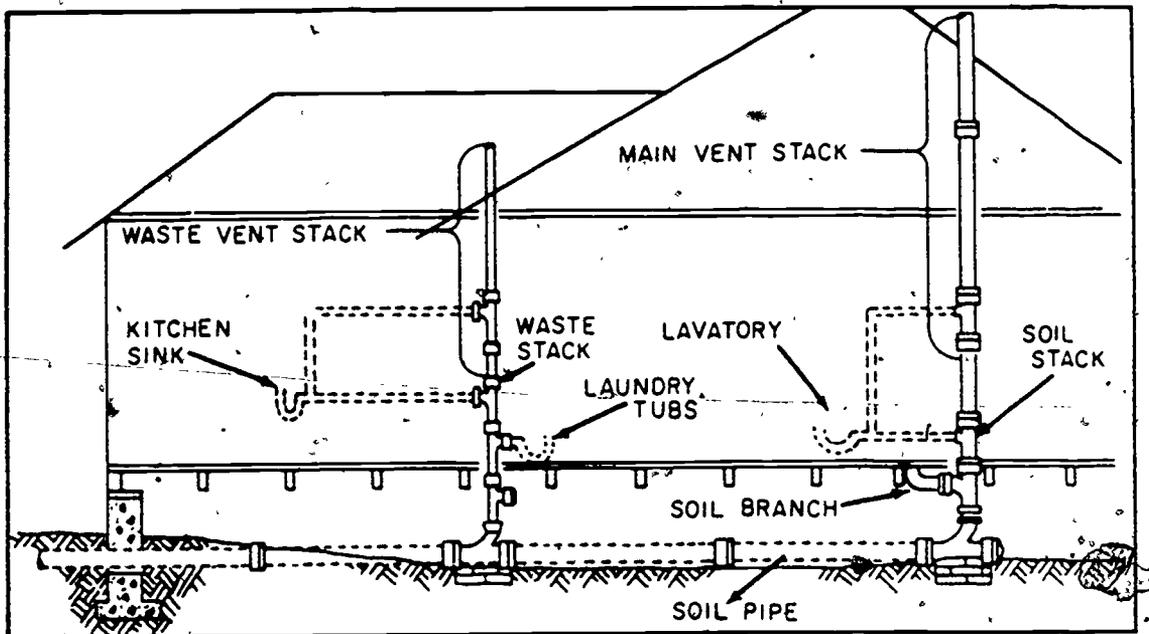
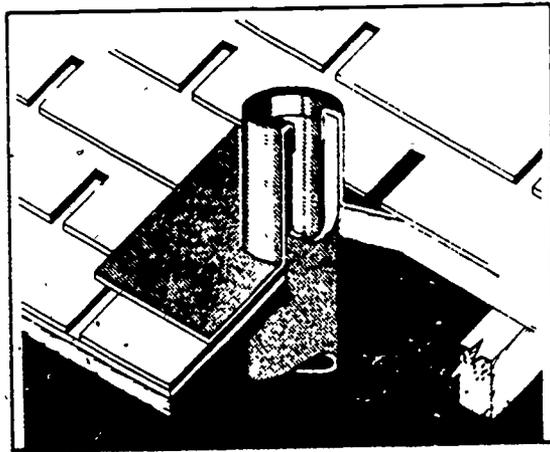

Figure 2-13 Identification of stacks
Figure 2-17 Installation of roof vent flashing
**Main stack.** Every building in which plumbing is installed should have at least one main stack, which should run undiminished in size and as directly as possible from the building drain to fresh air above the roof. (See fig. 2-13.)
**Waste stack.** A waste stack is the vertical pipe that carries waste from any fixture, except water closets, to a junction with the soil pipe or to the building drain, as shown in figure 2-13. Waste stacks may be as small as 2 inches in diameter; the size of the pipe is determined
**Soil stack.** A soil stack is the vertical main pipe that carries human waste to a junction with a soil pipe or to the building drain, as shown in figure 2-13. The plumbing codes specify that a soil stack must be constructed of pipe with a minimum diameter of 3 inches.
**Vent stack.** A vent stack is a vertical pipe which provides circulation of air through the drainage system. The vent stack may be constructed on top of a soil stack, but only the portion of the pipe which is above the highest fixture rim or waste branch inlet is considered to be the vent stack, as you can see in figure 2-13
**Stack vent.** The stack vent is the extension of a soil or waste stack, that portion of the pipe which is above the highest fixture or branch inlet. (See fig. 2-13 )
**Exercises (219):**
inches. Raising the stack through the roof and installing the roof flashing, as shown in figure 2-17, is a simple procedure on new installations before the roof is shingled. Cutting the hole and placing the roof flashing to secure a leakproof projection of the stack through the roof is more difficult when you are remodeling an old building where the roof is already installed. The opening in the roof is made watertight by roof flashings. On shingled roofs, extend the roof flashing under two courses of shingles, above the pipe. On flat roofs, place the flashing between layers of roofing material with the finishing layer over the top of the flashing. Roof flashings are available in a number of different sizes, and the size of flashing used depends upon the size of the main and waste vents, which are the portions of the stack that project through the roof, as shown in figure 2-13. In certain areas of the country, it is possible for frost to close the vent at the roof outlet when the vent is exposed to temperatures below freezing. The air within the stack and vent pipes in the building is usually very close to the moisture saturation point. When this very humid air is emitted from the main and waste vent, it condenses and freezes if it is exposed to extremely cold temperatures. One way to prevent frost from closing the vent is to increase the pipe a size or two larger than the vertical stack. Another method that can be used in extremely cold climates is to install a high lead flashing, which provides an insulating pocket of air between the flashing and the end of the main and waste vent above the roof. The air pocket is open to the heat of the building and provides an intermediate warming area for gases leaving the main soil and waste vent.